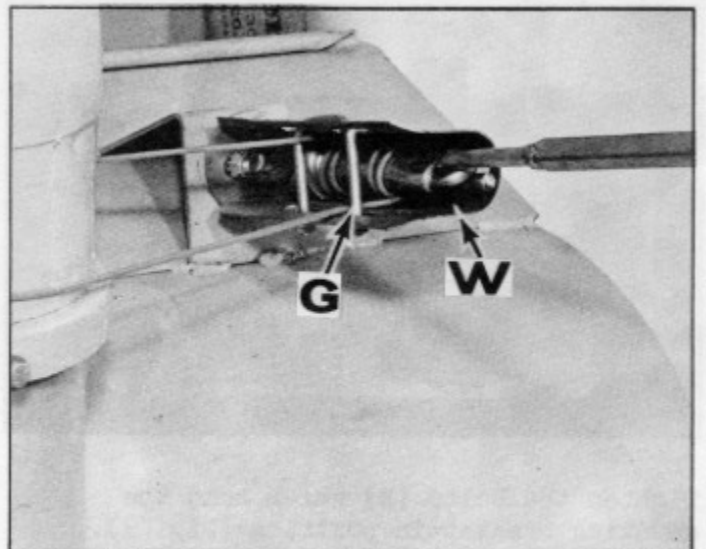
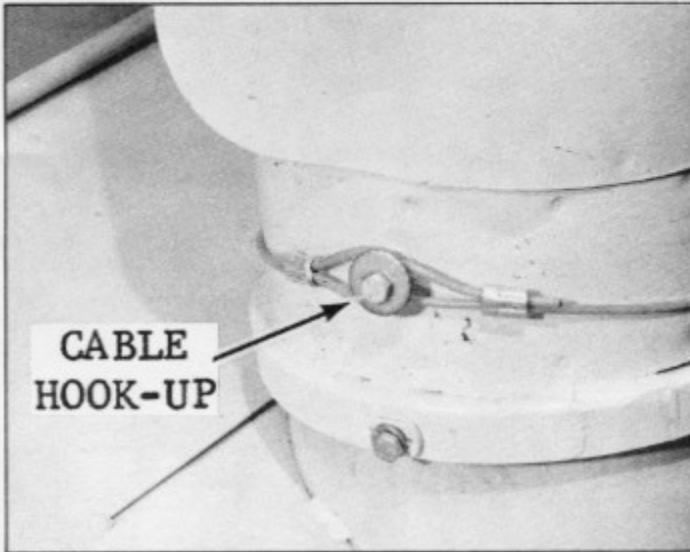

Fig. 9
Fig. 10
Slide both ends of the cable between U-bolt (G) in chute control bracket (W) (Fig. 9). Then bring both ends of cable around opposite side of discharge chute and secure under washer clamp (Fig. 10).